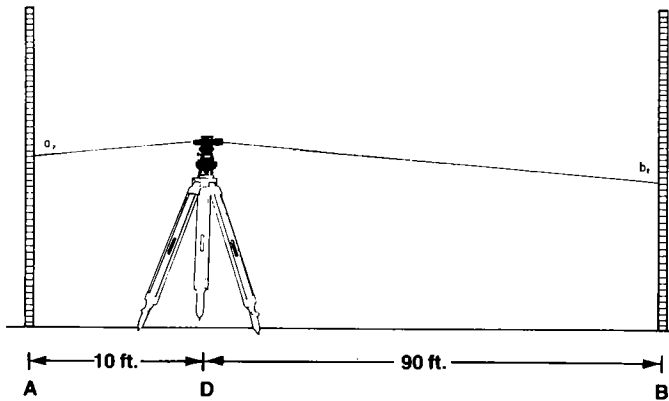

Figure 22
5. Sight each rod and calculate the difference in elevation between points A and B (see Figure 22). If the horizontal crosshair is properly adjusted, the difference in elevation between points A and B will be the same, whether the instrument is set up at point C or point D. If the horizontal crosshair is not adjusted correctly, the true difference in elevation will be the value calculated at point C. Adjust the horizontal crosshair as follows: